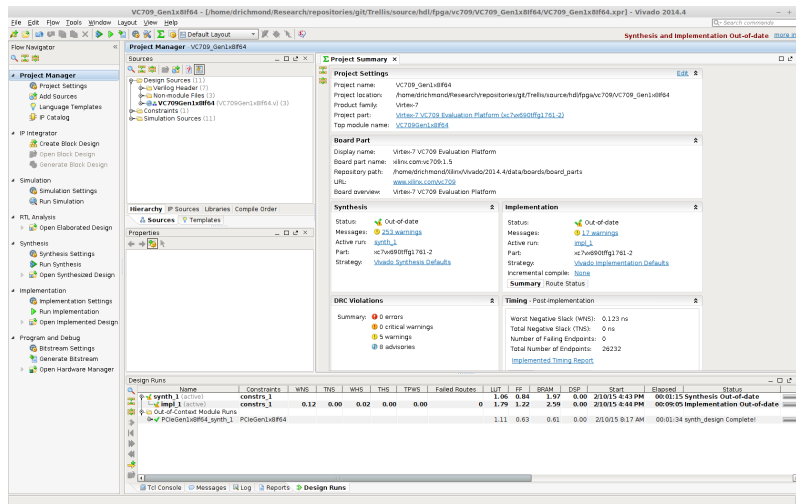
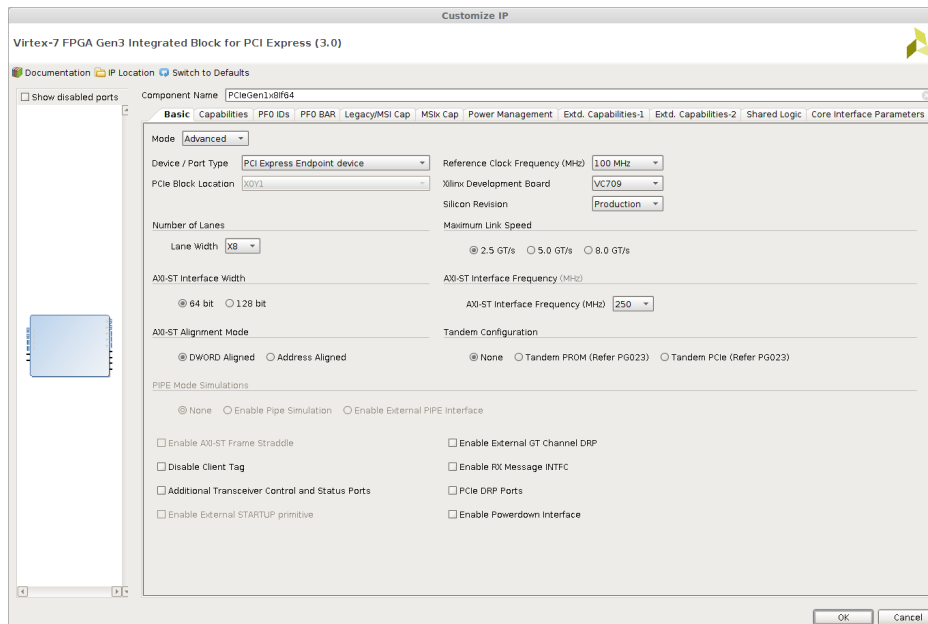

Figure 4.11: Project Splash Screen for Gen3 Integrated Block for PCI Express Projects
Figure 4.12: Basic settings tab.
3. In the RIFFA 2.2.0 distribution, open *RIFFA 2.2.0/source/fpga/xilinx/vc709/* and choose from one of the existing example design directories for your board. In the example design directory, locate the *prj* folder and open it. Select the *.xpr* file and click open. This will open the example project, as shown in Figure 4.11.
- To recompile the example design, click the generate bitstream button in the top left corner as shown in Figure 4.11.
To generate the PCIe IP select the 7 Series Integrated Block for PCI Express after selecting the IP Catalog shown in Figure 4.11. This will open the IP Customization window as shown in Figure 4.12
Optional: Set the Component Name of the PCI Express block, and the IP Location. In our example projects, we use the name template PCIeGen**W**x**Y**If**Z** where **W** is the PCI Express Version (**Link Speed** in Figure 4.12), **Y** is the lane width, and **Z** is the AXI interface width. The IP location is the *ip* directory in the example project.